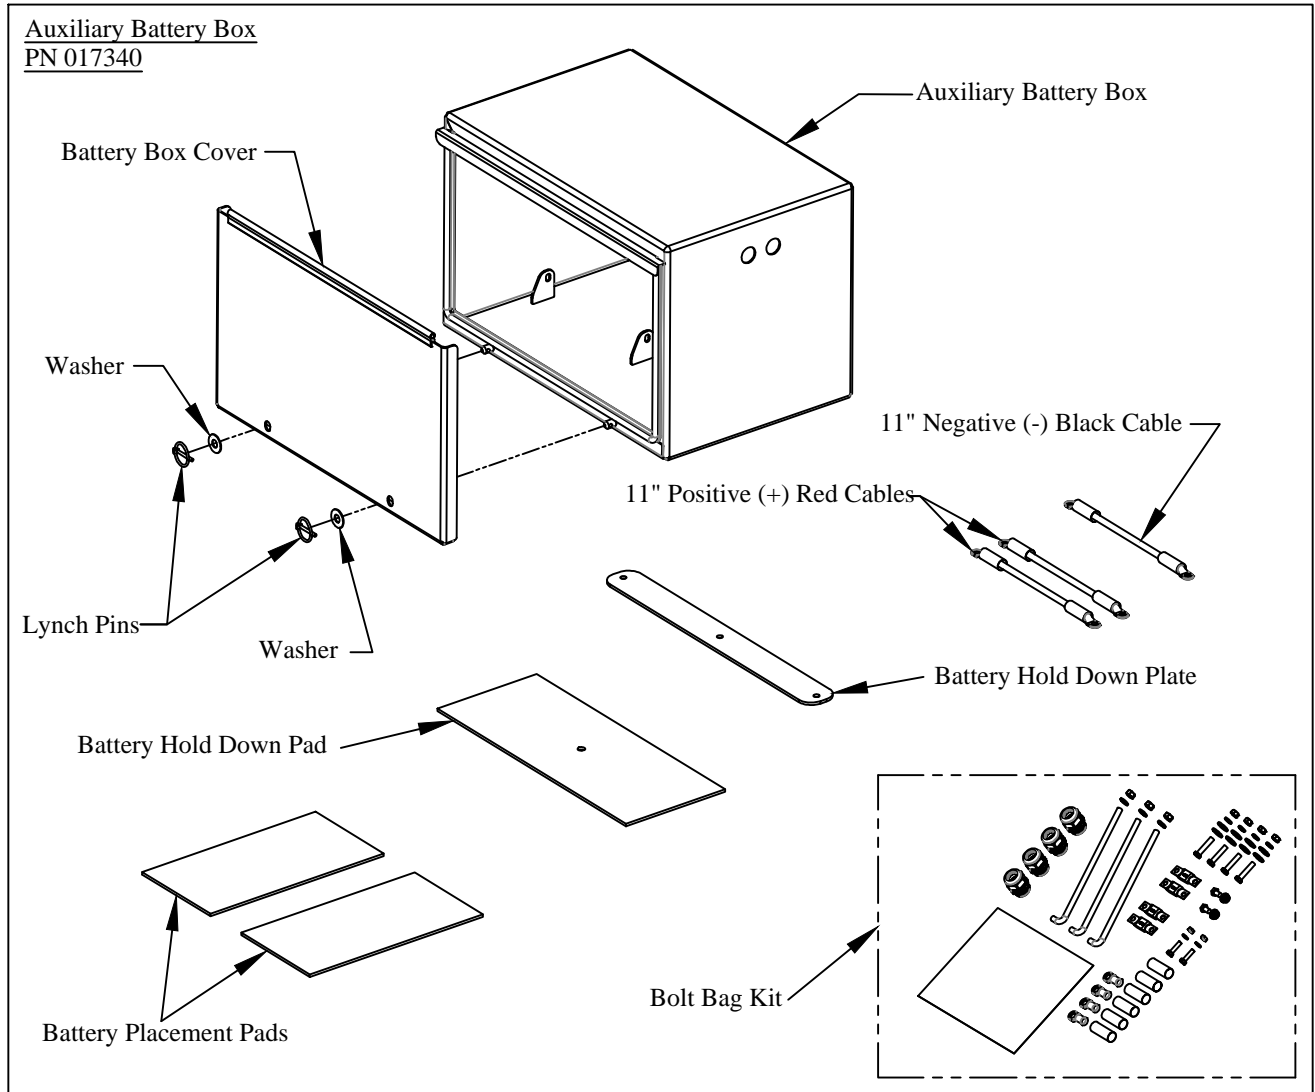

Figure 1: Part identification.
1. **Remove** the cover from the auxiliary battery box by removing the two lynch pins and washers as shown (Figure 1).
2. **Verify** the parts of the **Auxiliary Battery Box** (Figure 1).